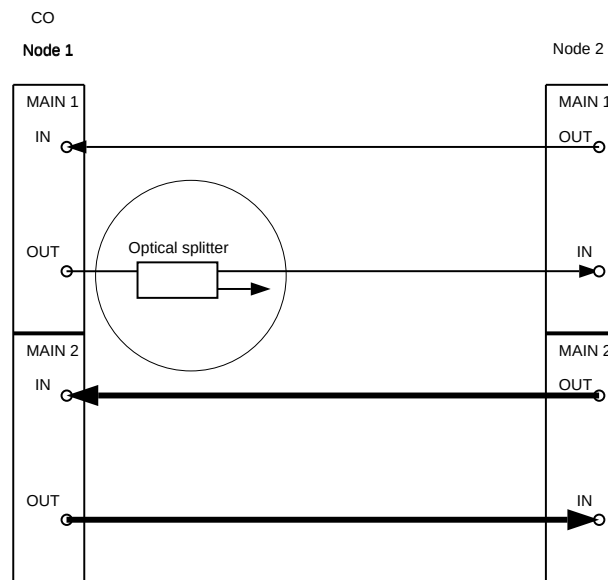

Figure 2. DDM-2000 OC-3 Point-to-Point to Ring Upgrade
12. At Node 1, install optical splitter in optical line between Node 1 **MAIN 1 OUT** and Node 2 **MAIN 1 IN** as shown in Figure 2.